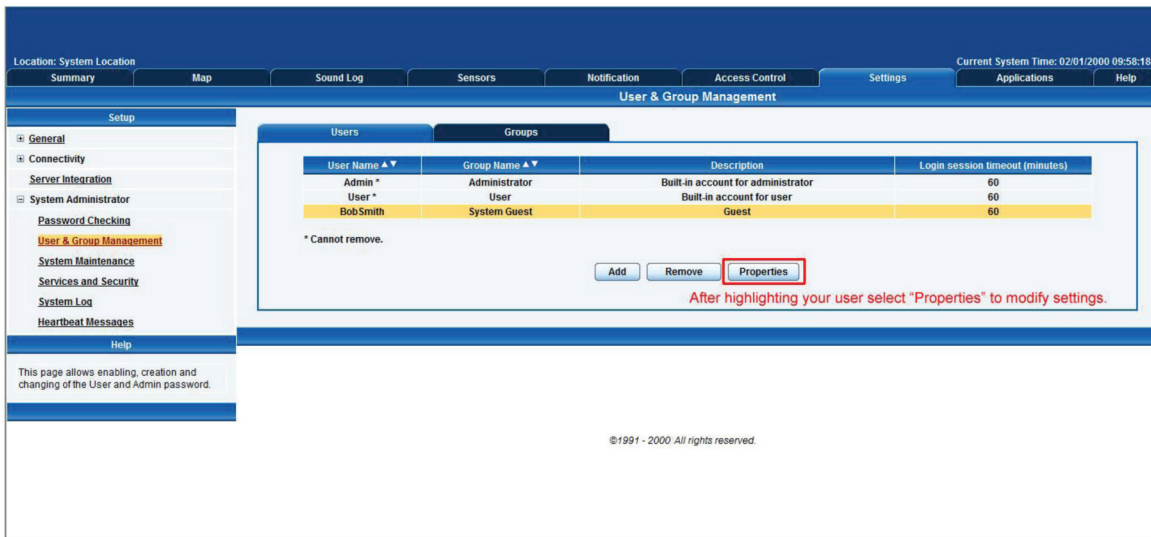

Figure 3-21. Properties button.
4. To modify a user's setting, click on the user to select it, then click the "Properties" button as shown in Figure 3-21.